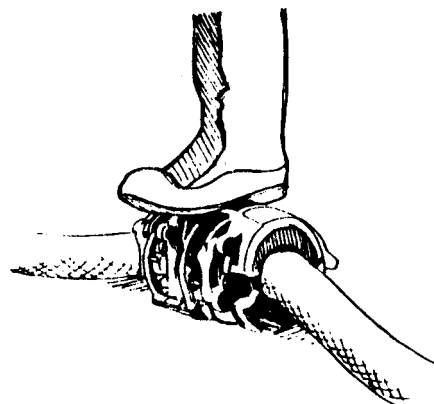

Figure 2-39. Using a hose jacket.
c. Tools For Protecting or Repairing Hose and Couplings. Tools to protect or provide emergency repairs for hose and couplings include hose jackets, hose ramps, and chafing blocks. The **hose jacket** (fig. 2-39), not to be confused with the fabric jacket of hose, is a metal device consisting